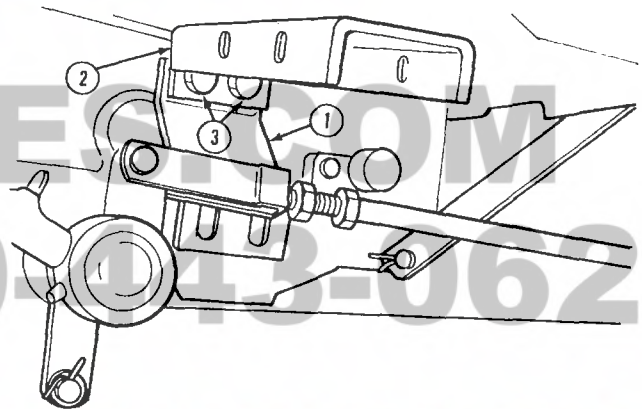

Figure 4
4. Loosely install the "S" brackets (1), Figure 4, behind the platform supports (2), with the slot holes downward and away from the tractor, using new M10-1.25 x 35 mm bolts and 10 mm